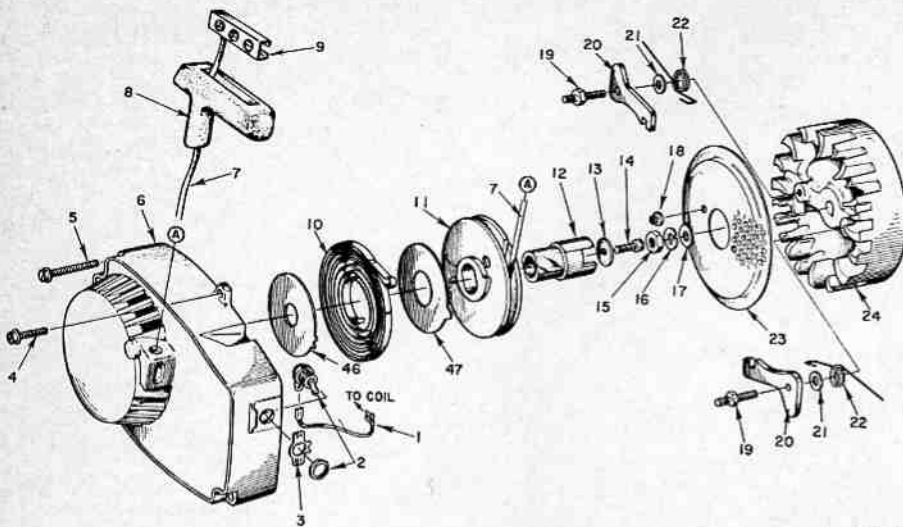

Fig. HL42A — Exploded view of late rewind starter and related parts. Plastic shields (46 and 47) keep sawdust out of rewind spring (10) and dampen noise.
Fig. HL42 — Exploded view of early rewind starter components and related parts. Starter unit is mounted on shaft (starter post) which is an integral part of the blower housing. Refer to Fig. HL42A for late starter assembly.
Fig. HL42B—Exploded view of latest production rewind starter assembly. Pulley (14) and integral starter cup (see item 12, Fig. HL42A), together with spring lock (15) and spring lock bushing (15A), can be used to renew early starter pulley (11—Fig. HL42A) and separate starter cup. Ignition cut-off switch and wiring are also shown.
Latest production starter and fan housing are shown in exploded view in Fig. HL42A. The starter post in fan housing (6) fits directly into hub of starter pulley (11) and no bushing is used. Inner spring shield (46) and outer spring shield (47) have been added to dampen noise and keep sawdust out of rewind spring. Latest type fan housing (6—Fig. HL42B) and bushing (6A) are required to renew fan housing not using bushing.
To renew early type starter pulley (12—Fig. HL42 or 11—Fig. HL42A) and/or starter cup (13—Fig. HL42 or 12—Fig. HL42A), use latest type pulley and integral starter cup (14—Fig. HL42B), spring lock (15) and spring lock bushing (15A).